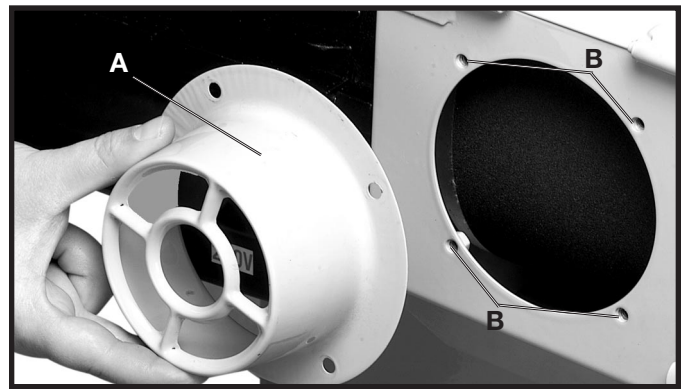

Fig. 17
1. Align the four holes on the dust port (A) Fig. 17, with the four tapped holes (B) on the side of the belt sander.